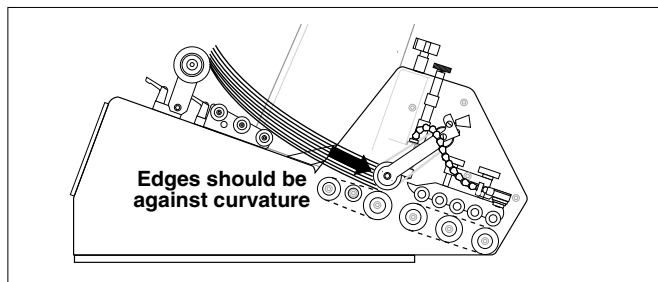

Figure 4-1. Placing Product Against Gate Assembly
1. Preshingle a small stack of material and load in hopper with one end of the stack resting against the gate assembly, and the other end resting on the back wedge (Figure 4-1).